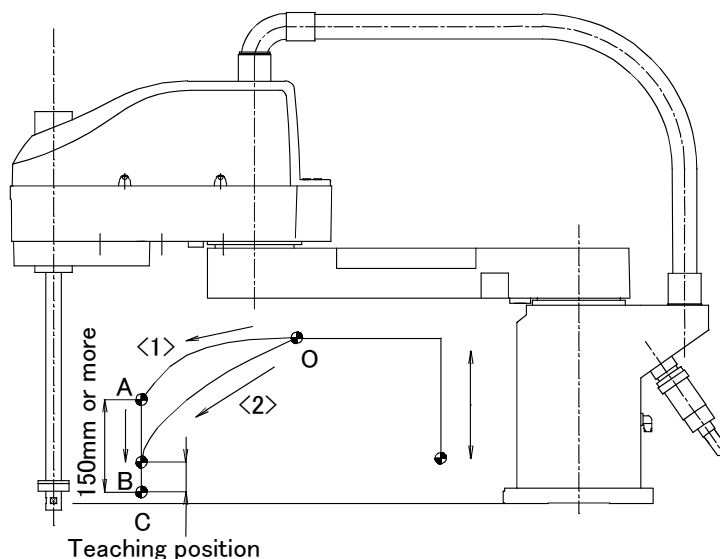

Fig.2-13 : Recommended path when positioning at the bottom edge of the Z axis
- 3) When positioning the work near the bottom edge of the Z axis, if no effectiveness is achieved in step <2> above, perform operation <1> (robot path: O → A → C). In the case of operation 2 (robot path: O → B → C), residual vibration may occur. (Refer to Fig. 2-13.)